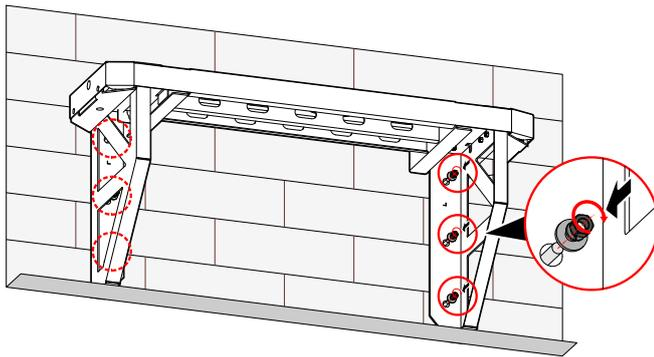

Figure3-15 Fix the assembled base
4. Fix the assembled base, as shown in Figure3-15.